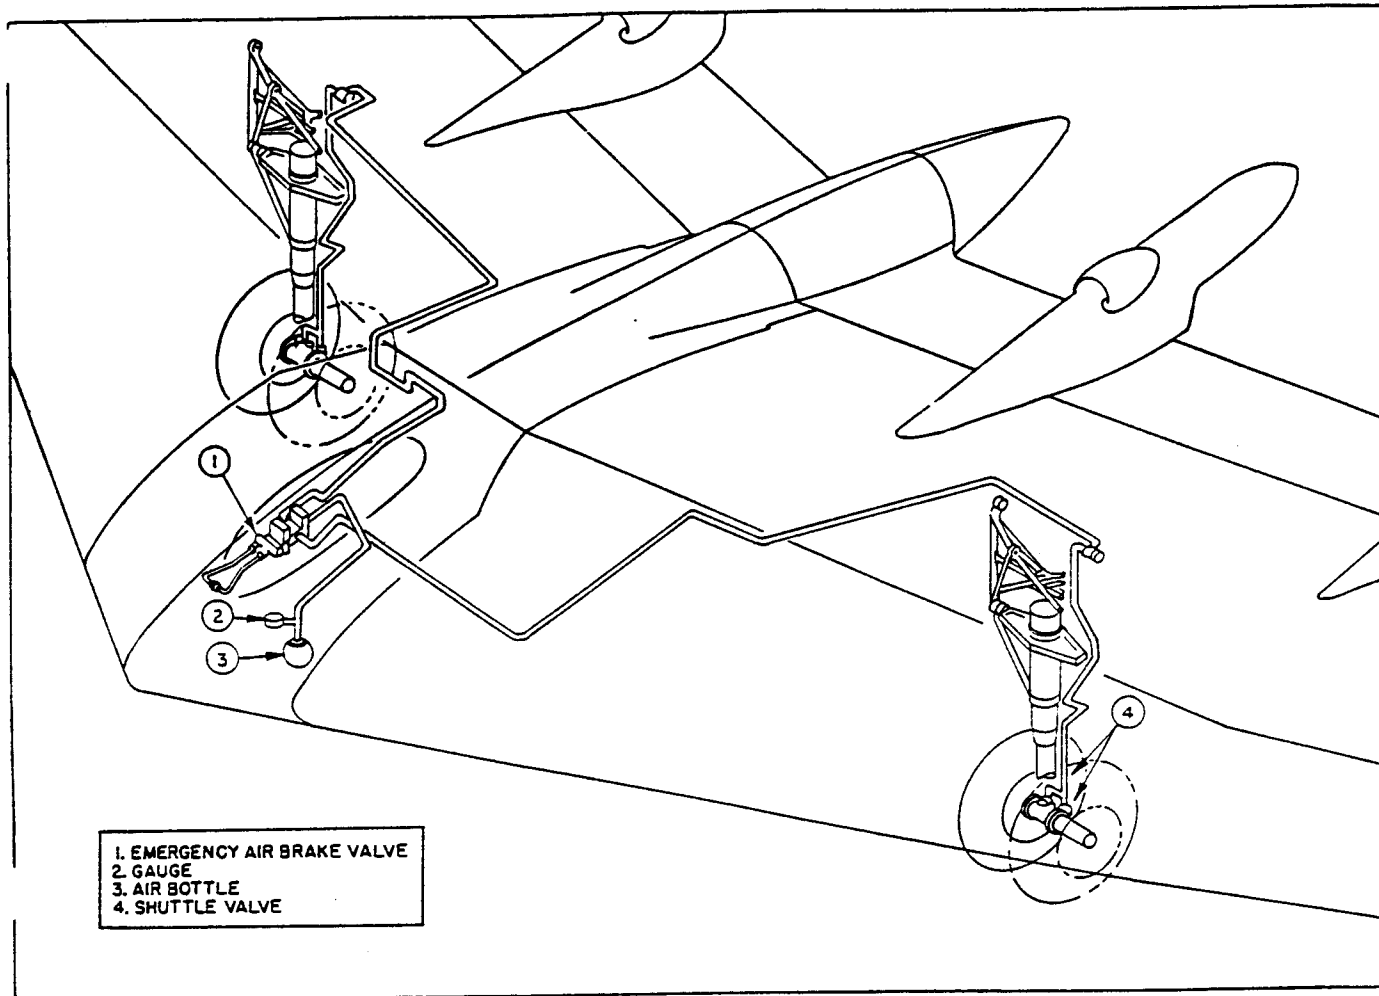

Figure 4. Emergency Air Brake System
4. INSTALLATION.- Reverse removal procedure. (See paragraph (9) (b) 1, preceding.)
(10) EMERGENCY AIR-BRAKE SYSTEM. (See figure 4.)- In the event of hydraulic brake